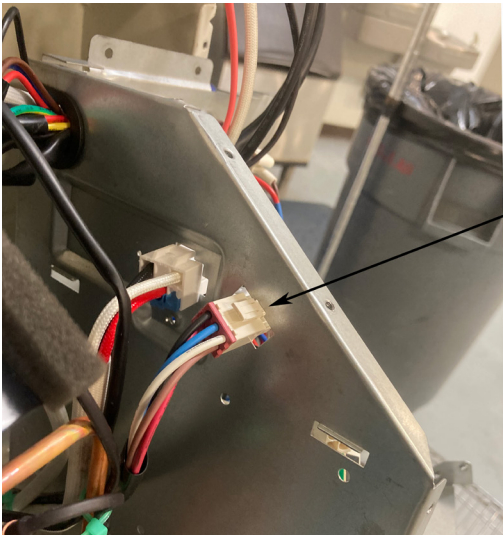

Figure 518
8.1 Disconnect molex connector. See Figure 518.